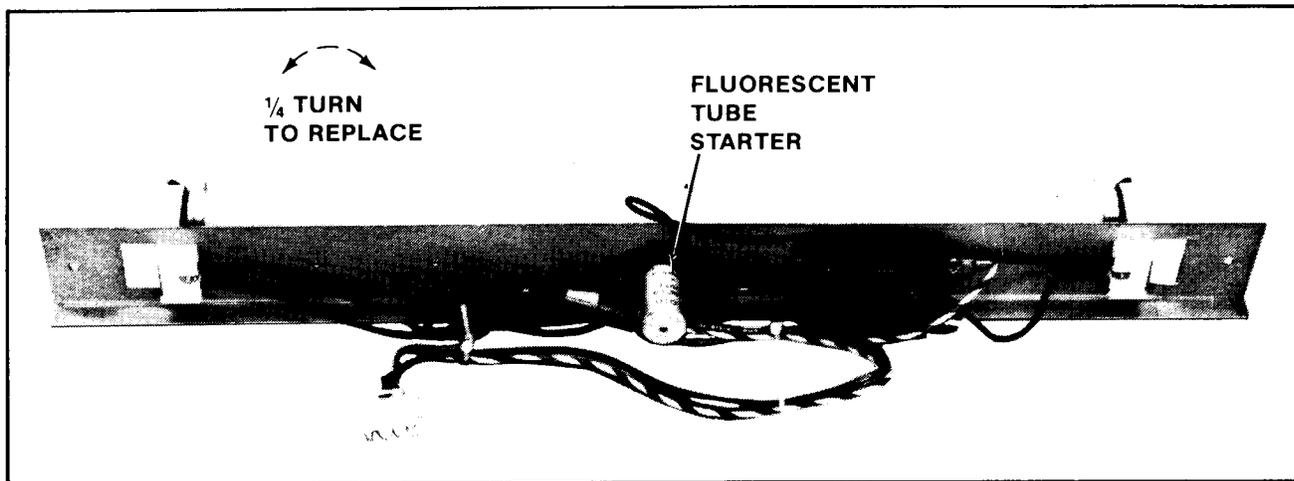

Figure 4-16 Replacing Fluorescent Tube Starter — Upright
- Replacing the fluorescent tube starter. See Figure 4-16.
4. Replacing the black light tube starter. See Figure 4-16.
3. Replacing the fluorescent tube starter. See Figure 4-16.